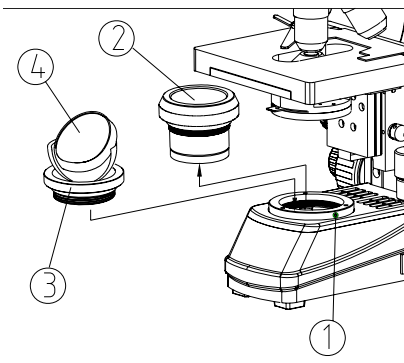

Fig. 8
2. Loosen the hexagon screw① with the spanner, to screw off the built-in Koehler illuminator condenser② (see Fig. 8).
3. Screw on the mirror③ according to the arrowhead pointed, and tighten the hexagon screw① with the spanner.
4. Rotate the mirror stand④, to fill the field with light.